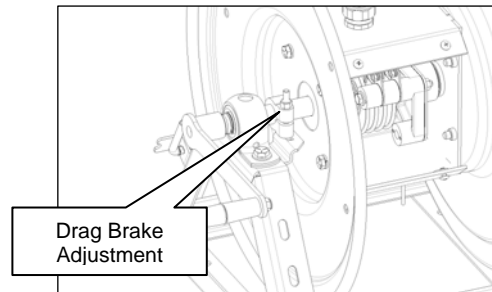

Figure 4 – Hand Crank Models Only
- 2) Adjust drag brake (Hand crank models only). Turn clockwise to increase tension and counter-clockwise to decrease tension. See **Figure 4**.